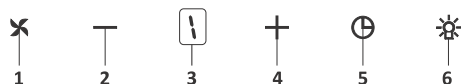

Fig. 19: 5 Spd Dig Button
1. ➤ Press this button to turn on the product.Fig. 19
2. ➤ Press this button to decrease the motor speed.Fig. 19
3. ➤ Dig display You can follow which speed the product is currently working on this display.Fig. 19
4. ➤ Press this button to increase the motor speed.Fig. 19
5. ➤ When timer button is pressed, a 15-minute timer function will be activated; display will give a signal once the timer starts and the motor will stop automatically after 15 minutes.Fig. 19
6. ➤ Press this button to turn on and off the lamp.Fig. 19